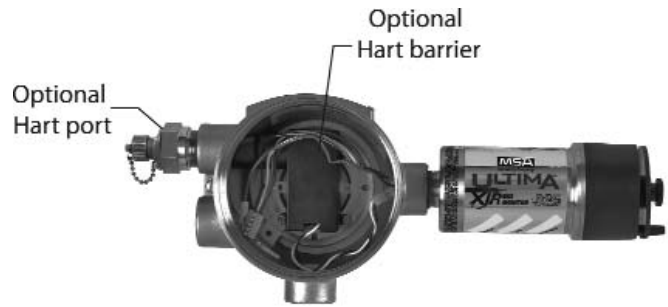

Figure 1
1. Remove the lid and the electronics from the enclosure (FIGURE 1).
2. Mount the enclosure in the desired location and run wiring to the enclosure per instructions on the enclosed Installation Outline Drawing. The XIR sensor should be mounted horizontally as shown in FIGURE 1.